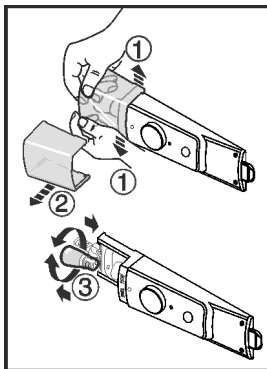

Fig. 12
- ▶ Push the lamp cover in and apart at the front Fig. 12 (1), and remove to the side Fig. 12 (2) as shown in the illustration.
- ▶ Replace the lamp. Fig. 12 (3)